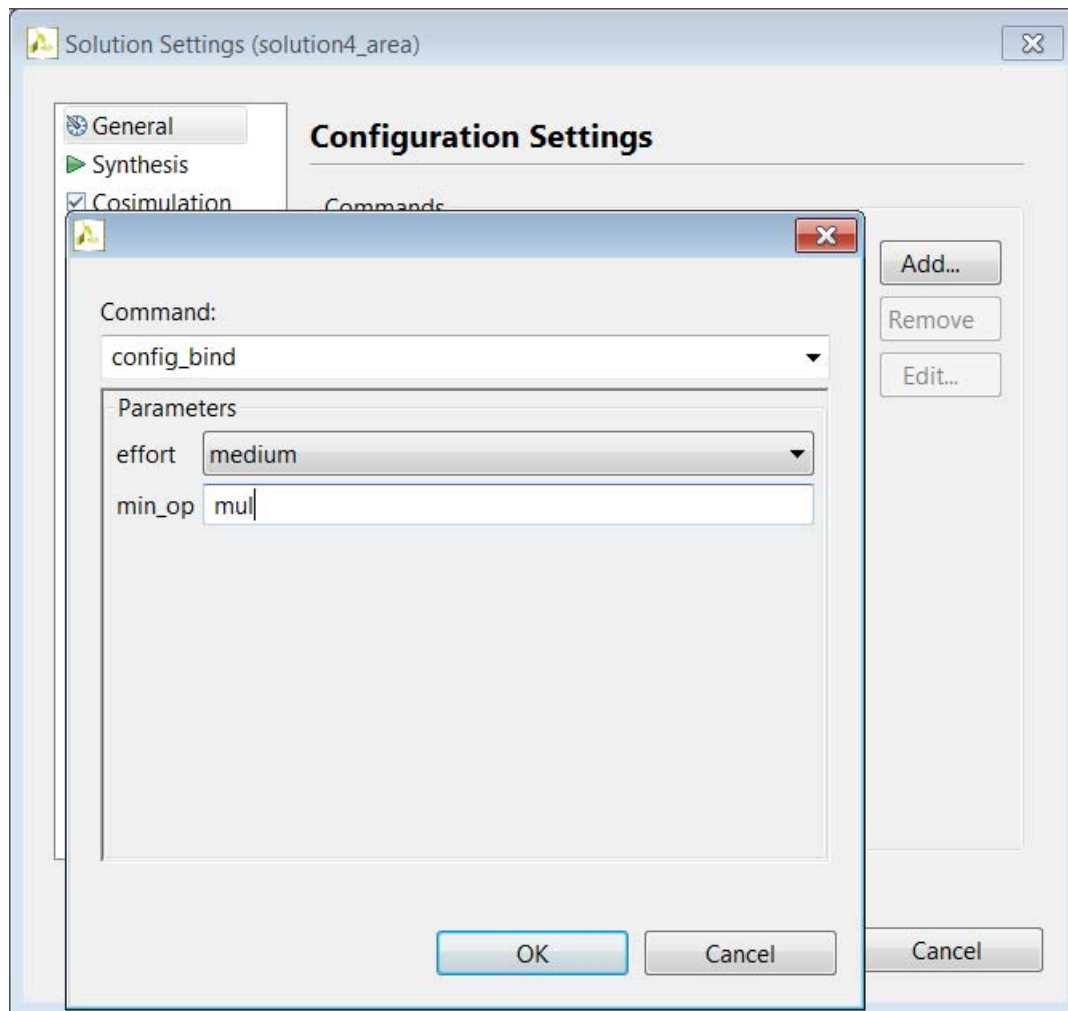

Figure 1-46: Adding Custom Constraints
5. Specify **mul** in the **min_op** (minimize operator) field, as shown in Figure 1-46.